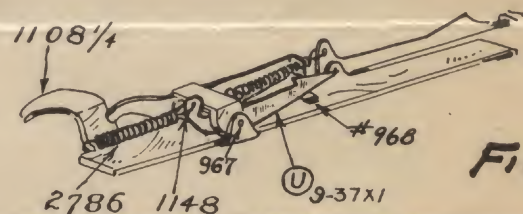

FIG. 3A
Figure 3A - Latch U, 9-37xl, can be assembled to the 9-19 assembly by removing pivot pin 967 and omitting spacer 1148, and attaching its tension spring 2786 to blank 1108 $\frac{1}{2}$ on the 9-19 assembly as shown. The addition of this latch (U) causes an engagement between it and the 9-32xl which prevents the carriage from shifting to the right in automatic division.
THE CHANGE IN BLANK (Q) AND THE ADDITION OF PART (R) HOLD THE ENGAGEMENT OF BLANK (Q) WITH PIN #968 IN FRONT SHUTTER SHIFT BAR #9-19 ASSEMBLY (FIG. 3A)